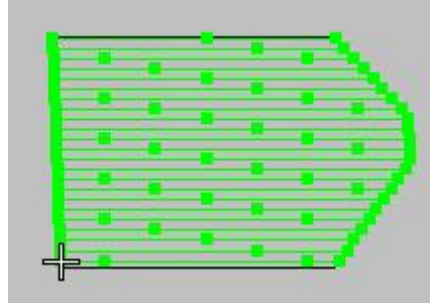

Figure 4
6. Press the "Enter" key to confirm (as shown in Figure 4).